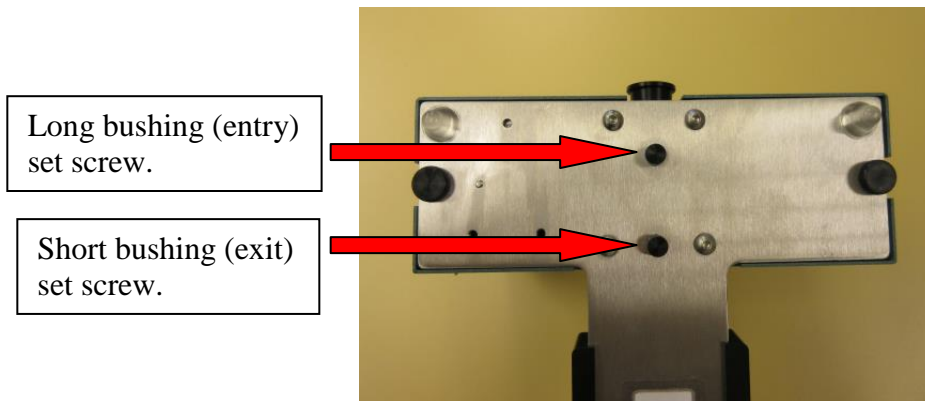

Figure 3.1.1 Bushing thumb screws
- Loosen the bushing thumb screws and remove bushings from cutter. *Figure 3.1.1*